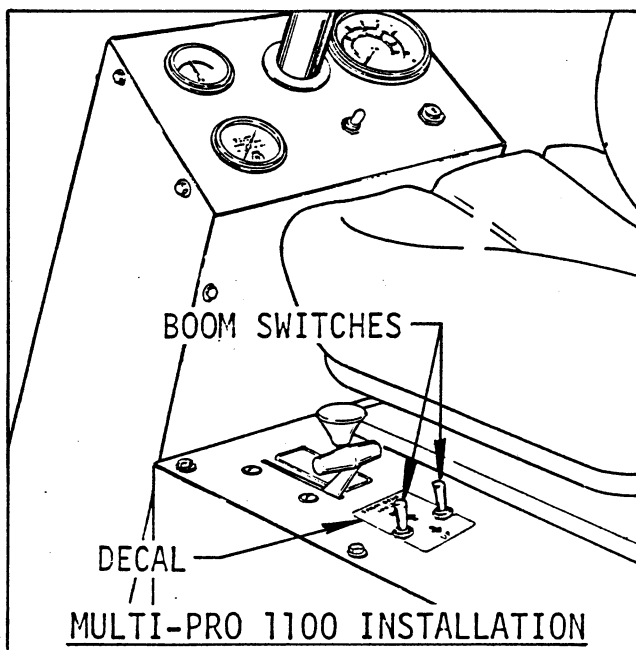

FIG. 2
■ Connect the Switches and Wires as shown in the diagram on page 2. Install the Switches in the holes in the Seat Support, using the nuts included with the Switches. Install the protective rubber Boots. Apply the "UP/DOWN" Decal between the Switches as shown in FIG. 2 or FIG. 3.